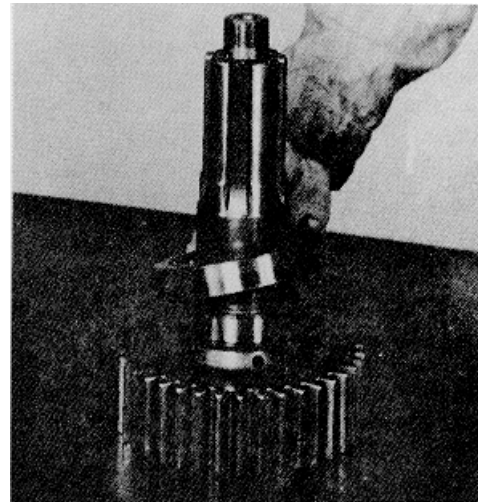

Figure 9B-74. Installing Outer Race and Roller
3. Install the bearing retainer onto the drive gear and bearing, Figure 9B-75. The wide trunnion bearing face of the retainer faces up.